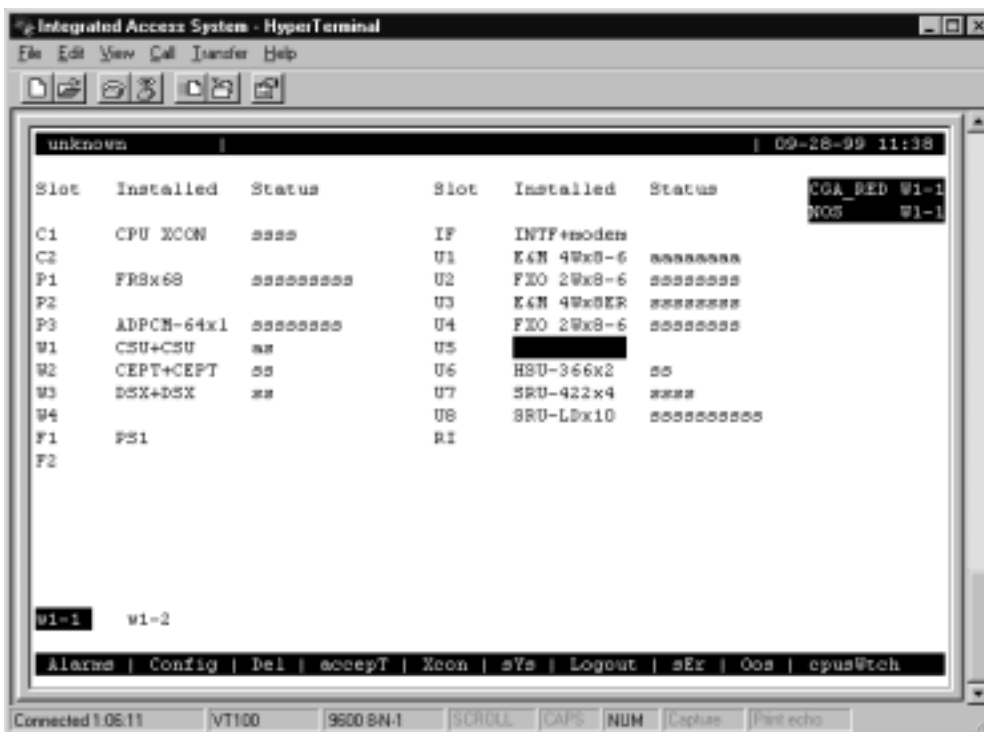

Figure 5-41. Typical WAN Card Selection
5. Select the WAN port to which you want to assign the voice cards (W1-1 or W1-2), as shown in Figure 5-41.